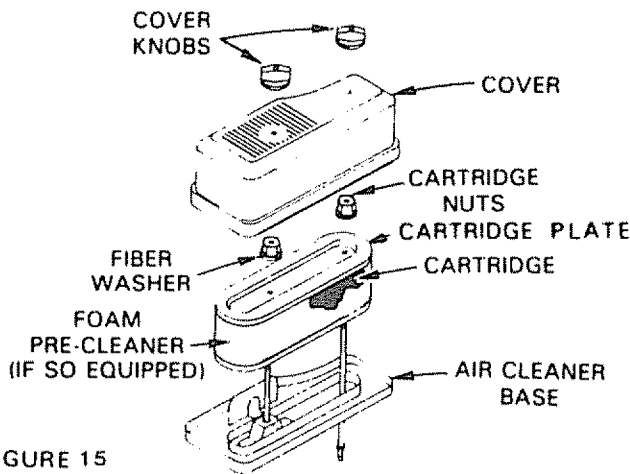

FIGURE 15
7. Clean Air Cleaner Element (Fig. 15)